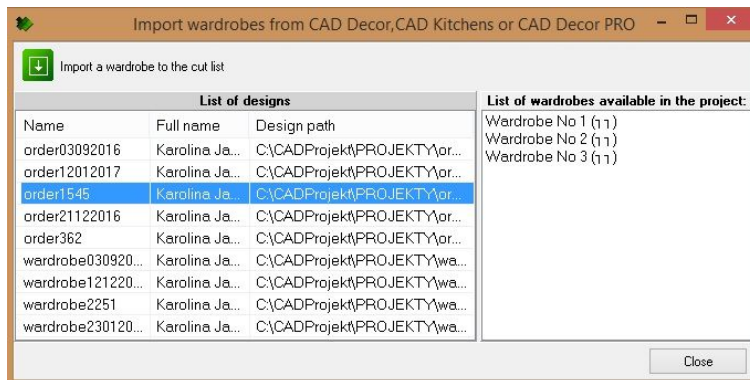

Fig. 49 – importing formats of wardrobes from CAD Kitchens with Wardrobe Module
- 7)  Import wardrobes - opens a window **'Import wardrobes from CAD Decor, CAD Kitchens or CAD Decor PRO'** (Fig. 49). For more information about the cooperation between CAD Cut and the Wardrobe Module see Chapter 9 on page 52.